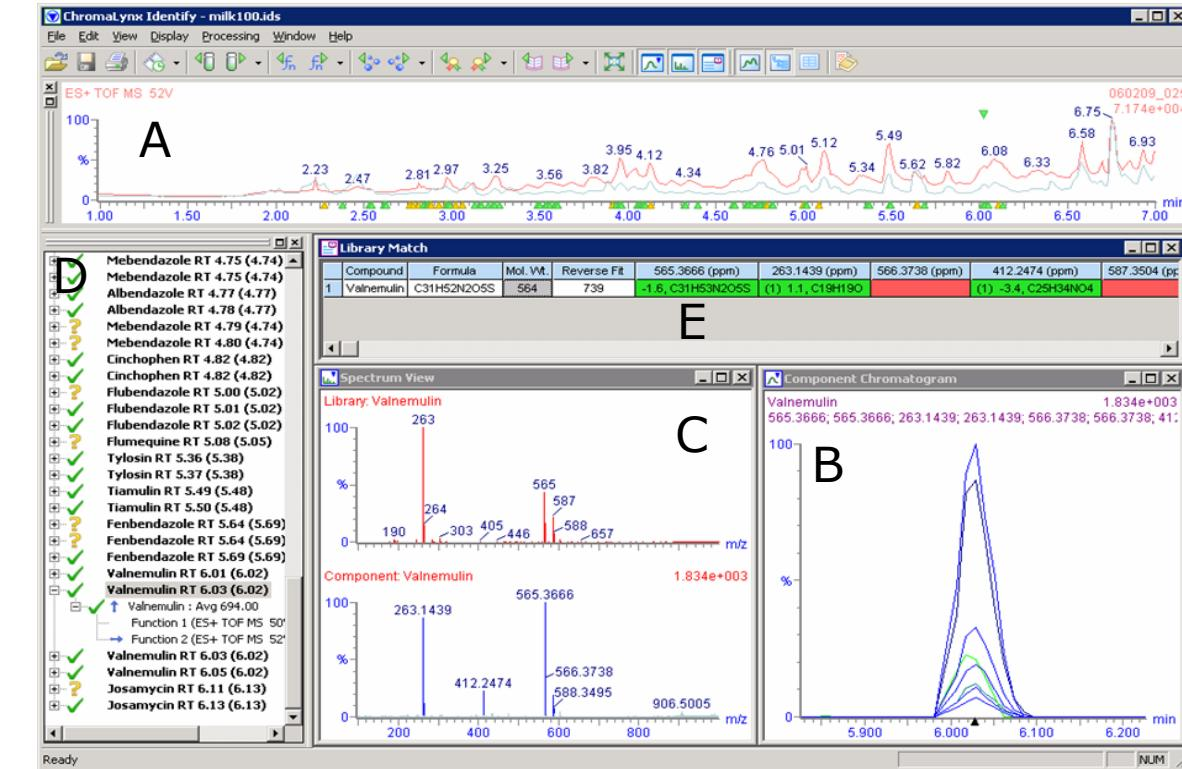

Figure 4. ChromaLynx browser window for non-target screening of veterinary drug compounds in milk.
Figure 4 shows the ChromaLynx browser with several windows (A-E) open to illustrate its functionality. (A) TIC is complex which makes it difficult to determine analyte peaks of relevance. (B) XICs of the n most intense ions. (C) The component mass spectrum is deconvoluted (refined, background subtracted) and matched to the library. (D) If the match factor is above a certain level (user-defined) then a candidate is considered a good match, and assigned a ✓. Between this level and a secondary level is considered a tentative match and assigned a ?, and below this secondary level, a negative is marked by a ✗. (E) The formula from the library entry is used to run EleComp on the measured mass. If it is within user-defined limits (5ppm) the calculated composition will be displayed shaded green. Within a second limit (20ppm) shaded yellow, and outside the limits, the box is shaded red.